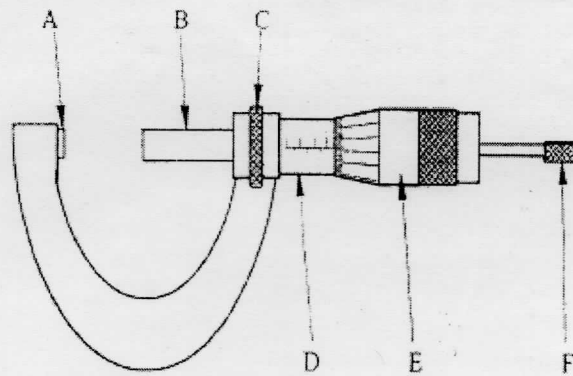

Figure 4
- (b) Figure 4 shows a micrometer screw gauge. Name the parts labeled A to F and state the function of each. (6 marks)